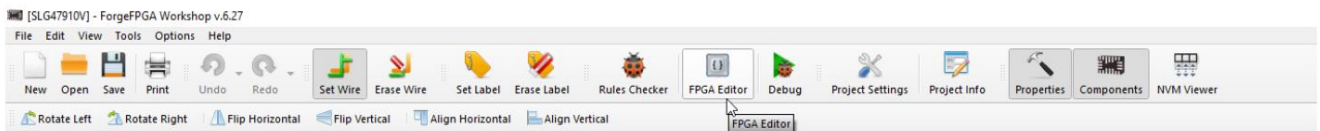

Figure 1: ForgeFPGA Tool Bar
1. Open the ForgeFPGA Workshop software in GreenPAK and select the SLG47910 device From the ForgeFPGA tool bar, select the FPGA Editor Tab (see Figure 1).